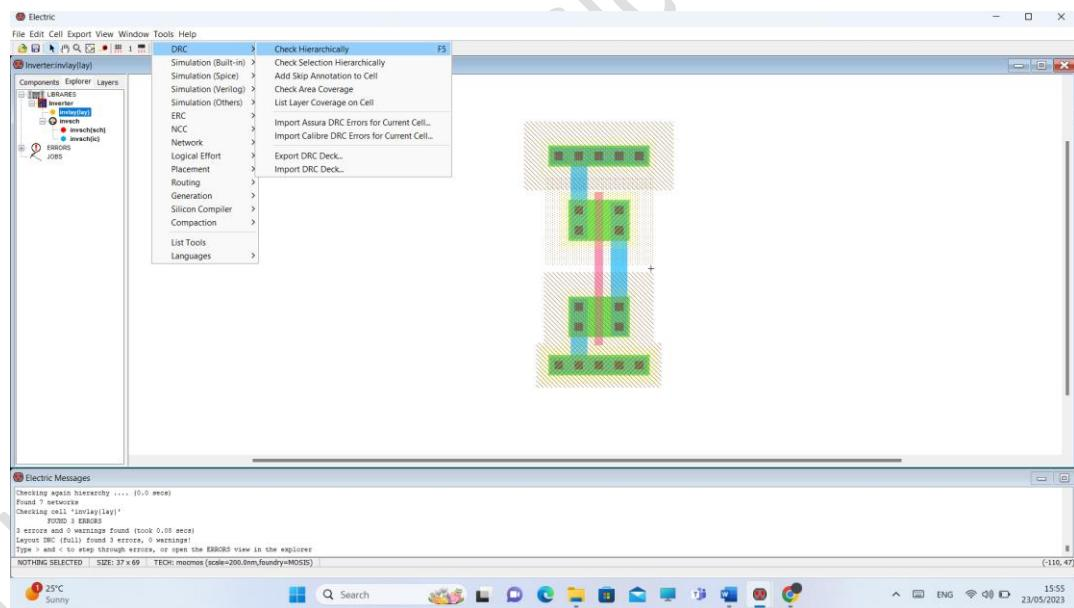

Figure 1.41: Clicking your design.
8. Check for error >> Tools>>DRC>>Check Hierarchically, if there are errors press **Shift + <** or **Shift + >**. (See Figure 1.41 and 1.42).